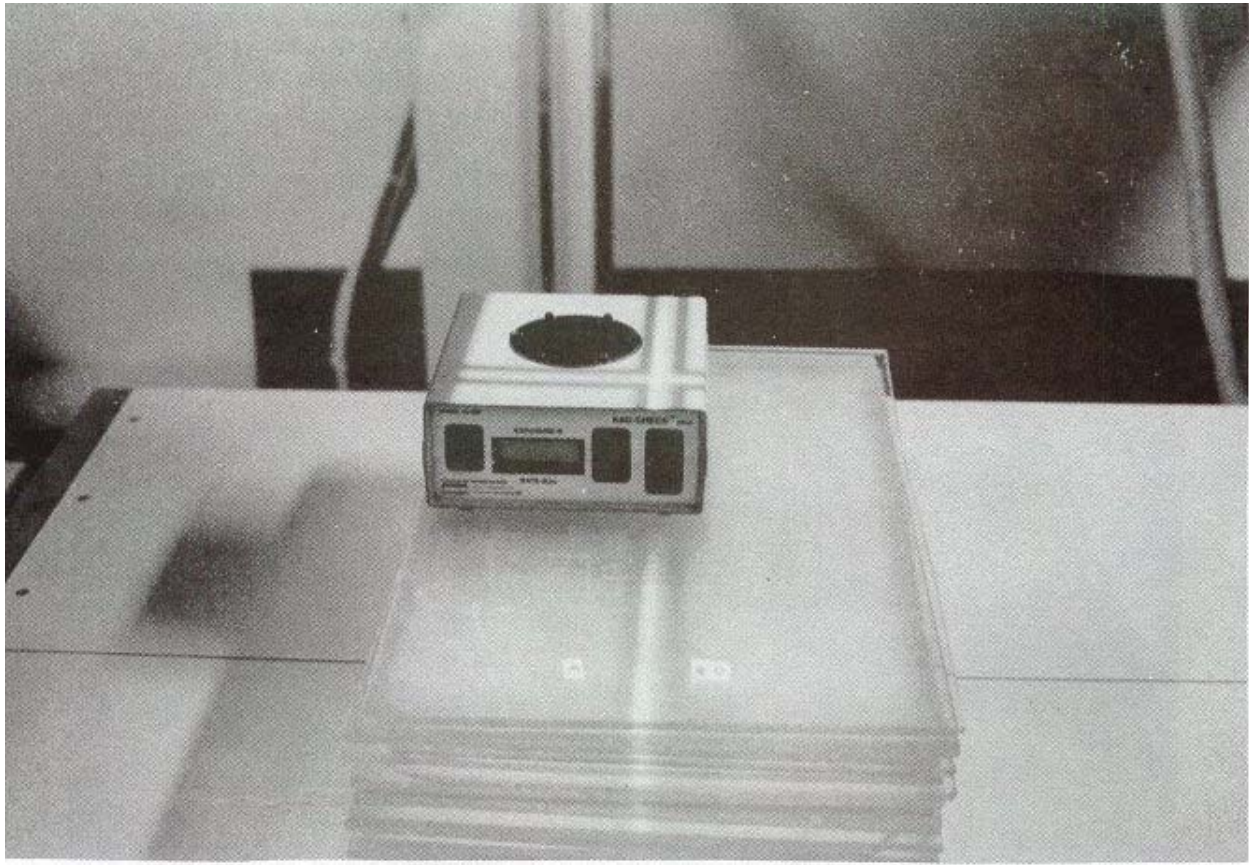

Figure 4-30. Set up for 80 kVp (base at six inches).
- j. Repeat steps d through i for phantom thicknesses of four, six, eight, and ten inches, using kVps of 80, 100, and 120 (see figure 4-30).